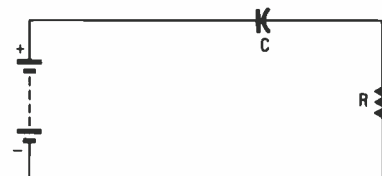

Fig. 7—The capacitor blocks the flow of DC current from the power source from passing through to the resistor.
10. (resistor, circuit) Because of the insulating dielectric in a capacitor, current does not actually flow through it. When a capacitor is connected into a DC circuit, it actually blocks the flow of current. In the circuit of Fig. 7, no current will flow through the resistor because electrons cannot pass through